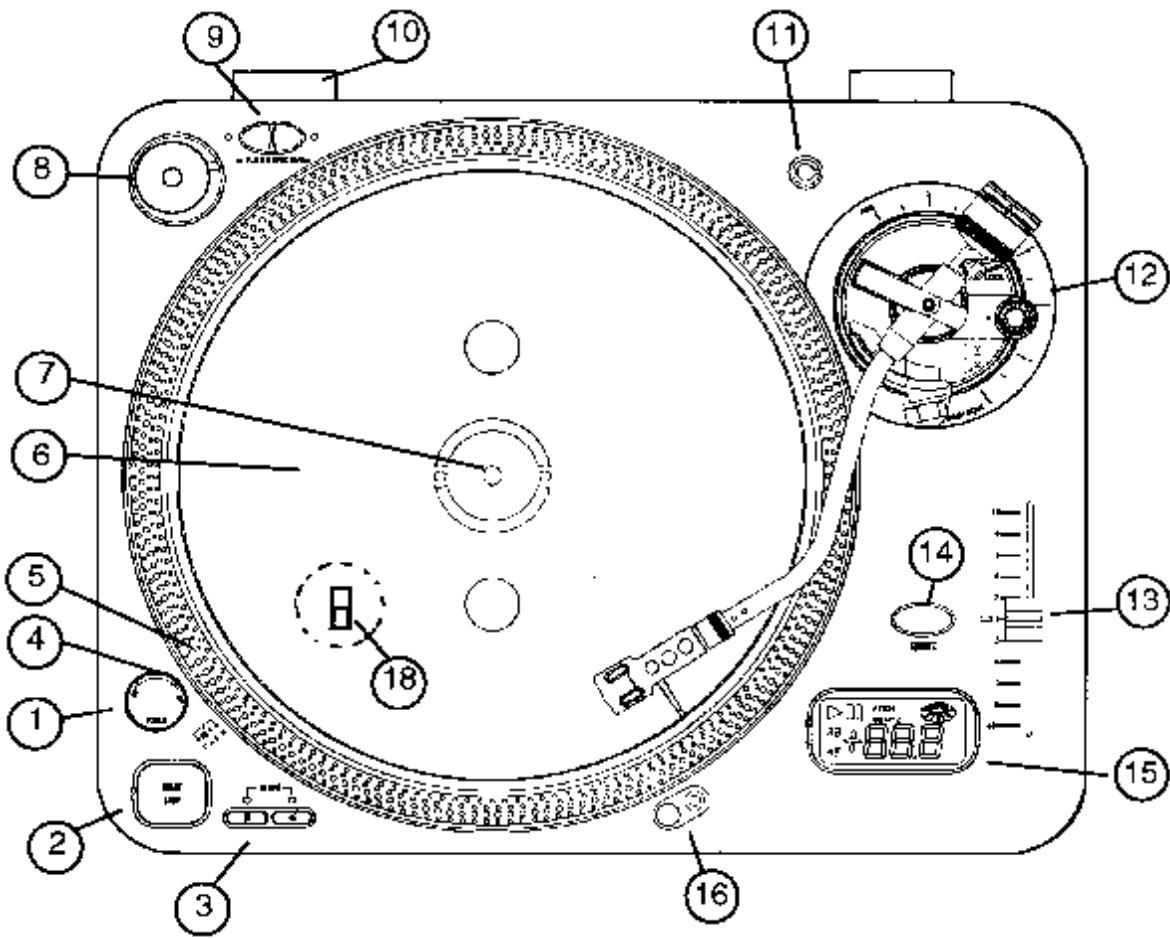

FIGURE 1
- 1) Turn the turntable platter until the selector switch shows through the hole of the platter (See Fig. 1).
- 1) Set platter on turntable spindle (see Fig 1). Place the slip mat on the platter.